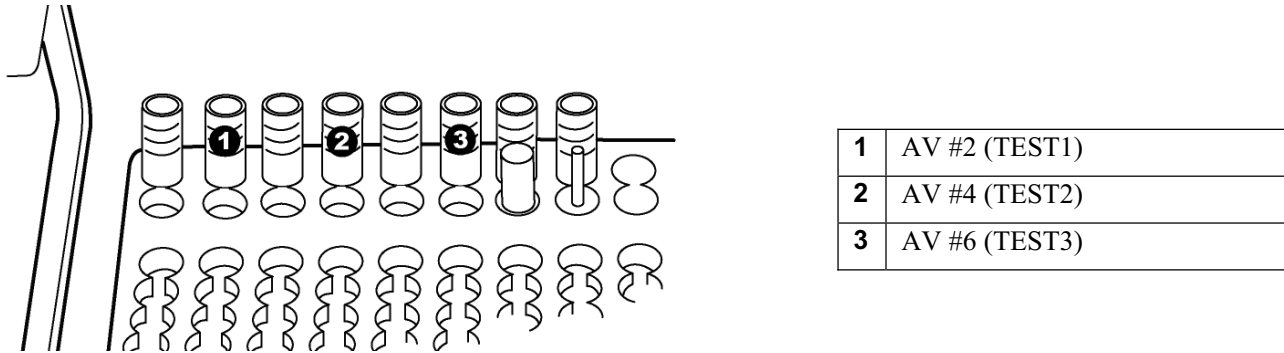
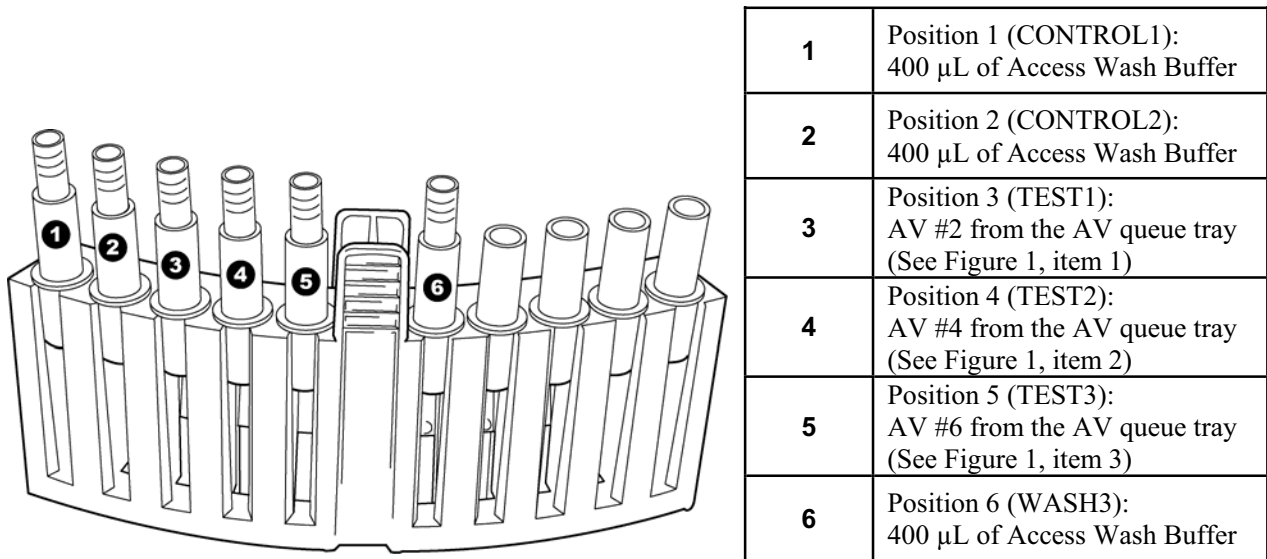

Figure 1: Test Carryover AVs in the CTA AV Queue Tray
Figure 2: CTA Carryover Automation Rack
When the list is displayed, open the CTA canopy and remove the TEST1, TEST2, and TEST3 AVs from the CTA AV Queue tray (See Figure 1, items 1-3). Place the 3 AVs in the automation rack you programmed on the Access 2i Test Requests screen (See Figure 2, items 3-5).
- a). Move AV #2 (TEST1) to **position 3** of the automation rack (See Figure 2, item 3).
- b). Move AV #4 (TEST2) to **position 4** of the automation rack (See Figure 2, item 4).
- c). Move AV #6 (TEST3) to **position 5** of the automation rack (See Figure 2, item 5).
26. Place the prepared AVs into **position 1, position 2, and position 6** of the automation rack (See Figure 2, items 1, 2 and 6).